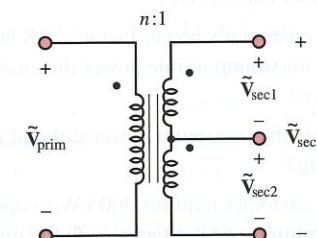

Figure P7.41
- 7.41** A center-tapped transformer has the schematic representation shown in Figure P7.41. The primary-side voltage is stepped down to two secondary-side voltages. Assume that each secondary supplies a 7-kW resistive load and that the primary is connected to 100 V rms. Find:
7.42 A center-tapped transformer has the schematic representation shown in Figure P7.41. The primary-side voltage is stepped down to a secondary-side voltage $\tilde{V}_{\text{sec}}$ by a ratio of $n:1$. On the secondary side, $\tilde{V}_{\text{sec1}} = \tilde{V}_{\text{sec2}} = \frac{1}{2} \tilde{V}_{\text{sec}}$.